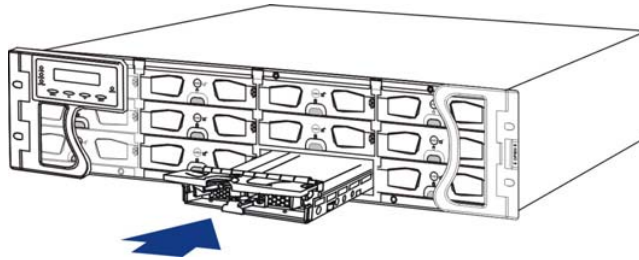

Figure 2-5: Installing a Drive Tray
Step 3. Align the drive tray with the tray slot into which you want to insert. Make sure it is properly aligned, and then gently slide it in. This should be done smoothly and gently. (See *Figure 2-5*)